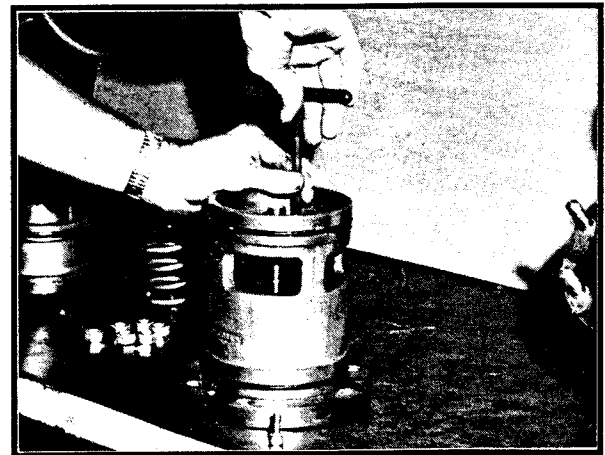

Figure 3-21 Removing Four Screws and O-Rings
6. Remove cylinder (Item 16) from cylinder head (Item 20) by removing four (4) screws (Item 22) and O-rings (Item 23). Reference Figures 3-21 and 3-22.